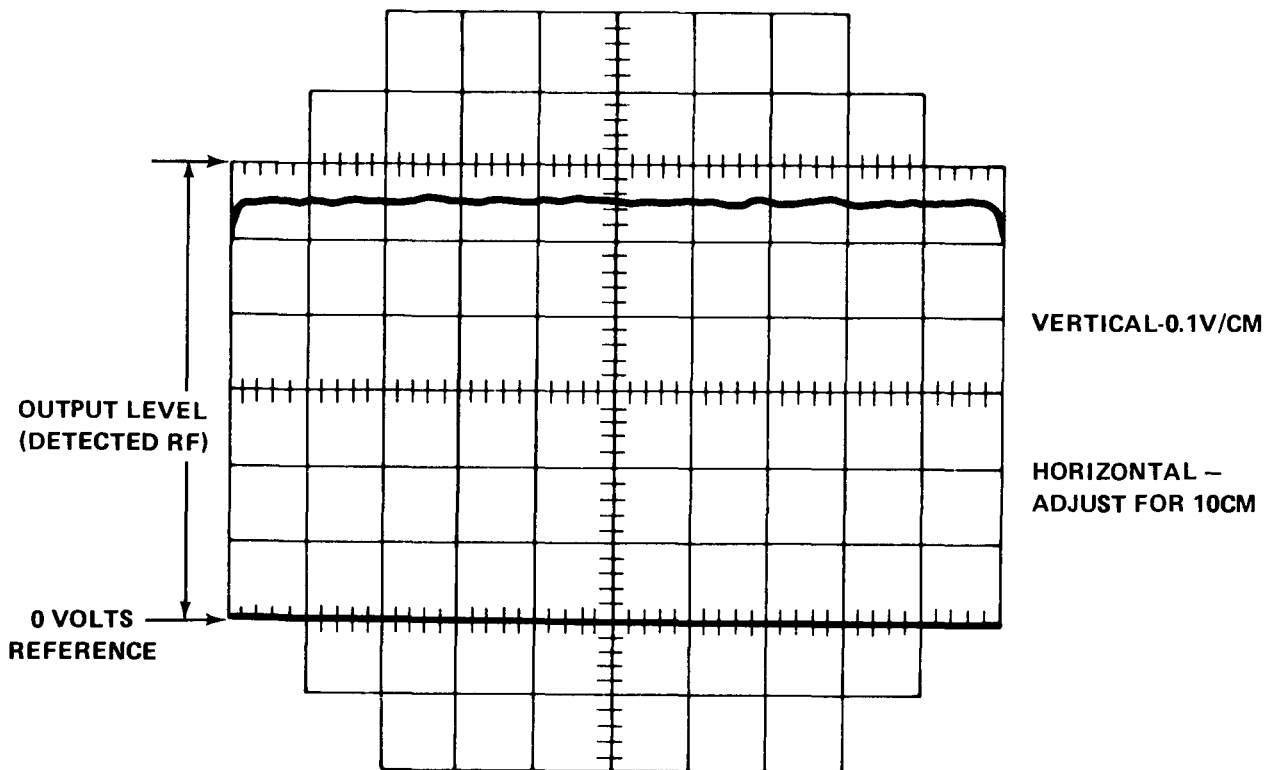

Figure 4-14. Oscilloscope "Box Pattern" Display (Typical)
- j. Adjust oscilloscope controls to obtain a display as shown in figure 4-14.
- e. Adjust oscilloscope controls to obtain a display as shown in figure 4-14.